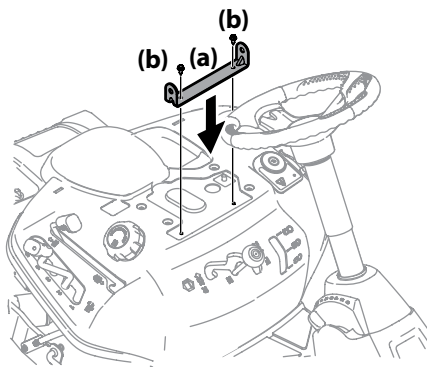

Figure 2-7
- Align the seat bracket (a) in place over the holes from where the self-tapping bolts (b) were removed, as shown in Figure 2-7.
- Using a  $\frac{1}{4}$ " drive ratchet with a  $\frac{3}{8}$ " socket, secure the seat bracket (a) with the self-tapping bolts (b) removed in step 2. See Figure 2-7.